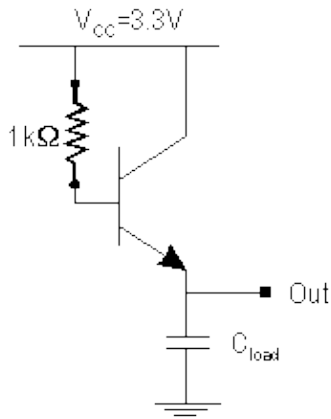

FIG. 3 Emitter-follower
d) It turns out that the process Jones is using is a BiCMOS process. Instead of using a CMOS driver, Jones could just as well have used an emitter-follower, as shown in FIG. 3, to drive the load. Determine the time it would take to charge the bus capacitance from 0V to the 50% point ( $t_{pLH}$ ) using this structure.
Still working on his microprocessor, Jones discovers a second interconnect problem. To send data to the external memory, he has to go off chip, as shown in FIG. 3. The copper wire on the board, which is 15 cm long, acts as a transmission line with a characteristic impedance of  $100\ \Omega$ . You may assume that the memory input pins represent a very high impedance, which for all practical purposes can be considered as infinite. The bus driver is a CMOS inverter, consisting of very large devices of (120/1.2) for the NMOS and (360/1.2) for the PMOS. You may also assume that the on-resistance of the minimum size devices (1.8/1.2 and 5.4/1.2, for NMOS and PMOS, respectively) equals  $10k\ \Omega$  and scales proportionally with the size of the transistors.